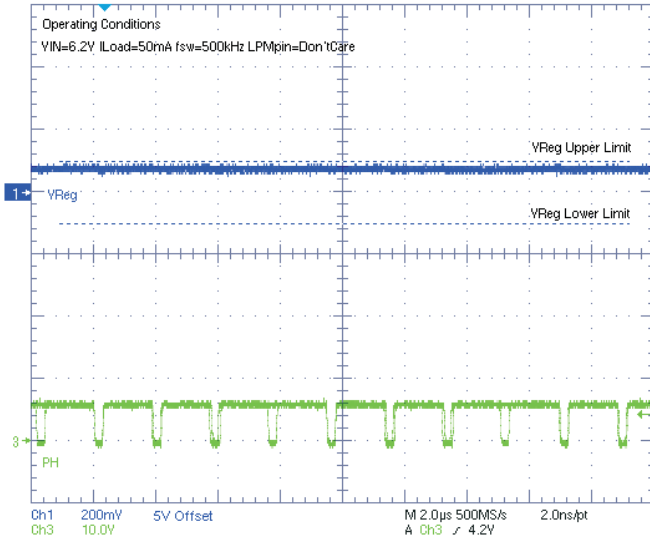
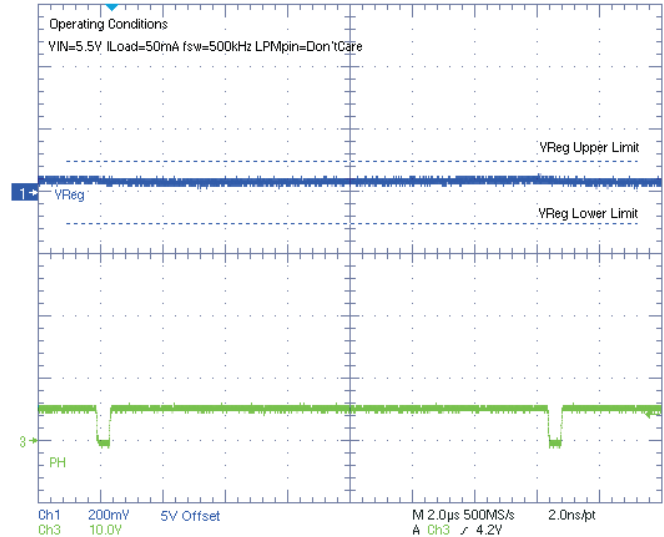

Figure 17. Active Mode CCM
Figure 18. PSM at Low VIN
- At low input voltages when  $V_{Reg}$  starts losing regulation and the OFF time ( $t_{OFF}$ ) of the switching FET tends to be close to or slightly less than the minimum OFF time ( $t_{OFF-Min}$ ). If OFF time is much smaller than  $t_{OFF-Min}$ , there is a risk that the part stops switching and regulation is lost until power is re-cycled with OFF time greater than  $t_{OFF-Min}$ . This mode of operation is shown in Figure 18. Comparing Figure 17 and Figure 18, pulse skipping occurs in Figure 18 but not in Figure 17 under similar output loading conditions.